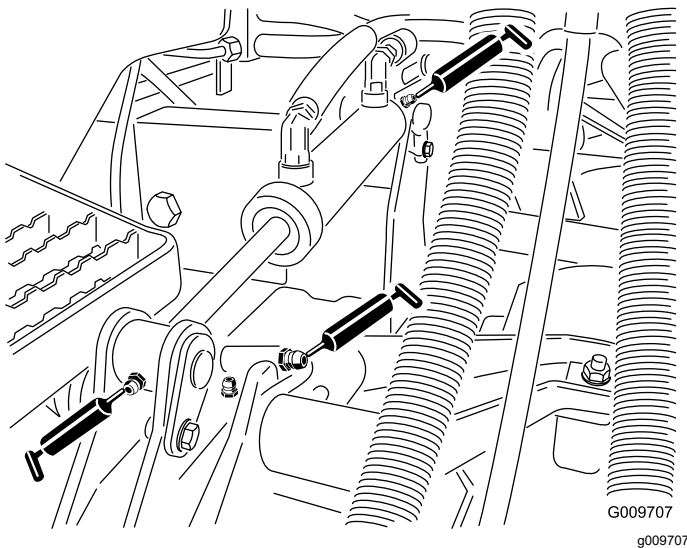

Figure 47
- Lift-arm bushings (1 per cutting unit) as shown in Figure 47
- Lift-cylinder bushings (2 per cutting unit) as shown in Figure 47